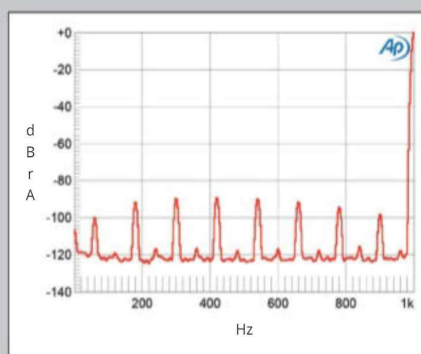

Fig.3 JMF HQS 7001, spectrum of 1kHz sinewave, DC-1kHz, at 1W into 8 ohms (linear frequency scale).
restricted to 22Hz–22kHz, and to 82.7dB when A-weighted. Spectral analysis of the low-frequency noise floor while the JMF drove a 1kHz tone at 1W into 8 ohms (fig.3) revealed a low level of random noise, but spurious were present at 60Hz and its odd-order harmonics, each close to –90dB ref. 1W. These will be due to magnetic interference from the power transformer.
³ See fig.3 at stereophile.com/content/future-without-feedback-page-4.